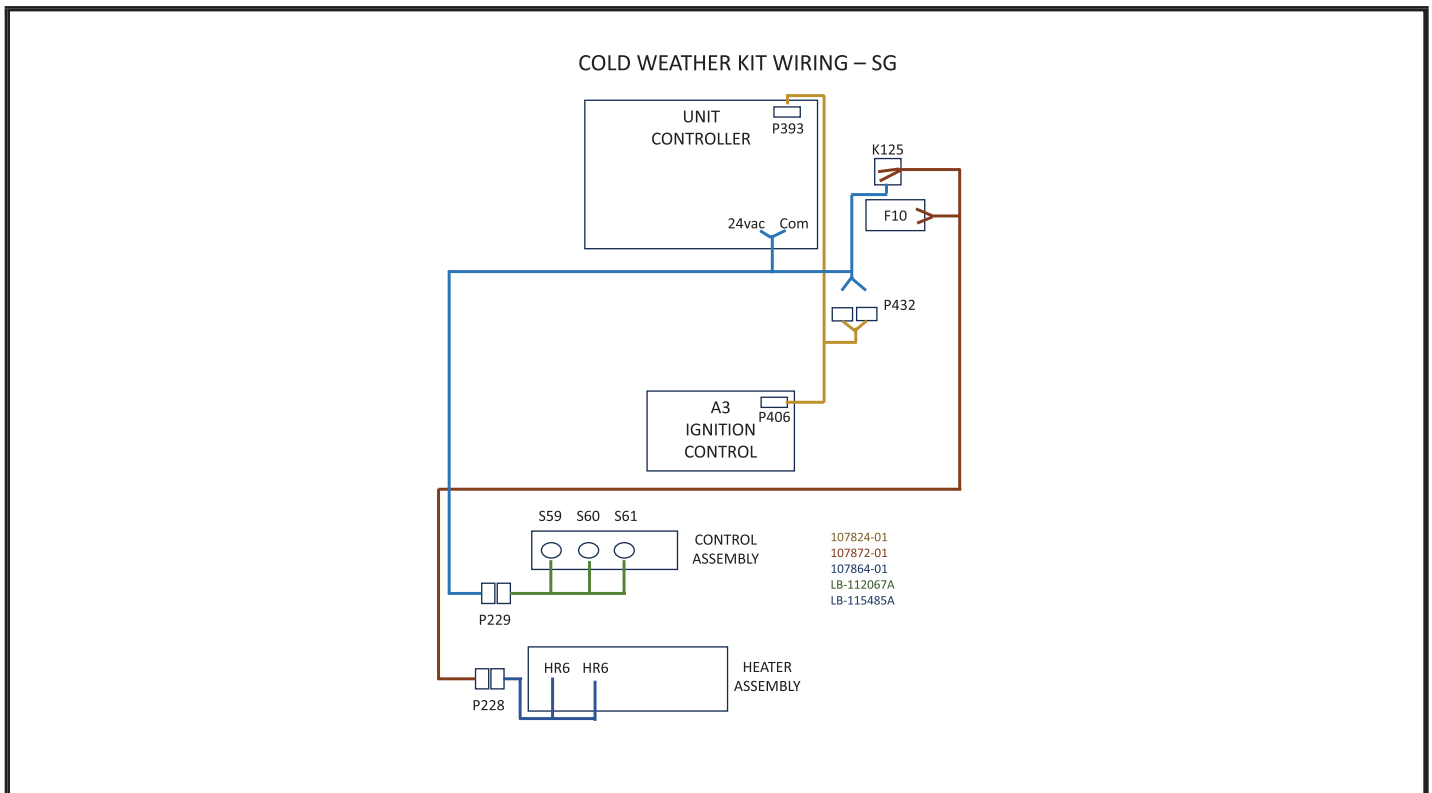

FIGURE 23
- 4 - Make wire connection as shown in FIGURE 23.